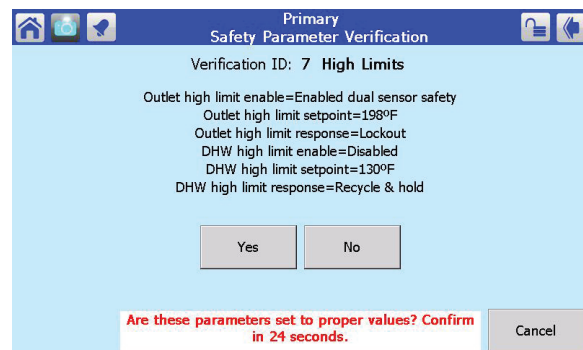

Fig. 46 - Safety Parameter Confirmation
- Once you are done changing safety parameters, press Confirm. The system will present a listing for each group of parameters which includes a changed safety parameter. See Fig. 46.